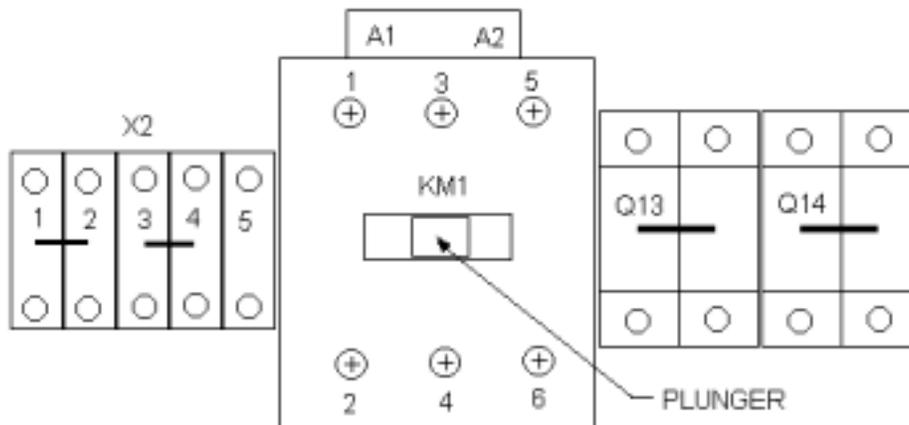

Figure 6
- a. Verify that the heat contactor located on the left side of the electrical panel is activated. (It is activated if the contactor "plunger" is pulled in. This is normally located in the center of the contactor or along the right side.) (See Figure 6.)